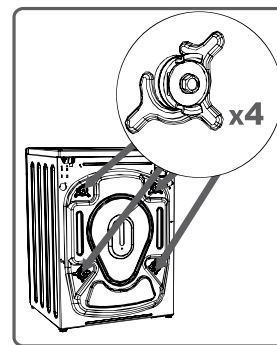

Fig1
**1:** Loosen the screws by rotating counterclockwise with a suitable wrench, (Fig 1 2)